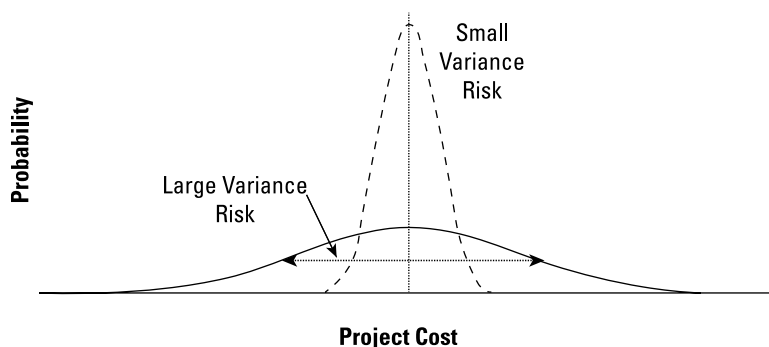
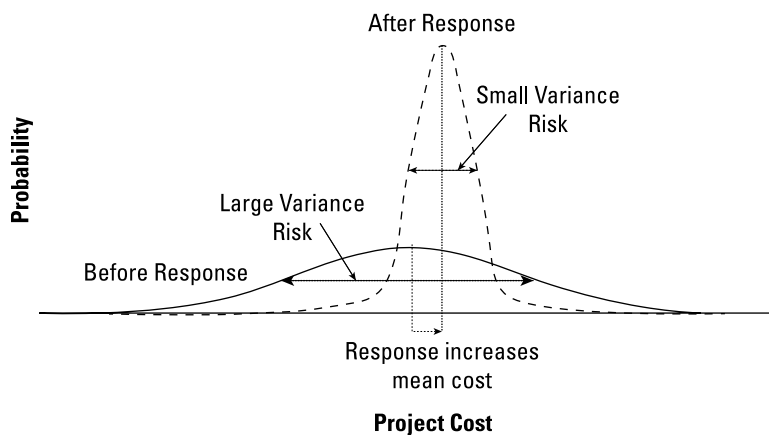

FIGURE 21-7: Variance risk.
FIGURE 21-8: Response to variance risk.
- » **Variance risk:** Some risks look like Figure 21-7 in that they have a probabilistic distribution resulting from uncertainties in estimates, materials, labor productivity, and so on. The best way to respond to this type of risk is upfront by doing things like additional research, switching suppliers, and assigning additional resources. Oftentimes, mitigation plans such as using more reliable suppliers may reduce the variance of a risk but increase cost as shown in Figure 21-8. Even so, most project managers prefer the variance risk after response (the dashed line) because it's more predictable. Because most project managers are risk-averse — they have enough uncertainty in their lives and there is only so much aspirin can do — they prefer to mitigate the risk even if it costs some money.